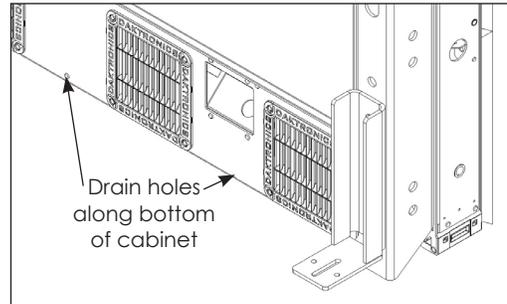

Figure 18: Drain Hole Locations
- Ensure the drain holes in the bottom of each section are not obstructed in any way. Inspect the mounting structure to ensure it does not obstruct the drain holes. If the drain holes are obstructed, drill $\frac{3}{8}$ " drain holes through the holes in the display cabinet and the mounting structure. Refer to **Figure 18**.